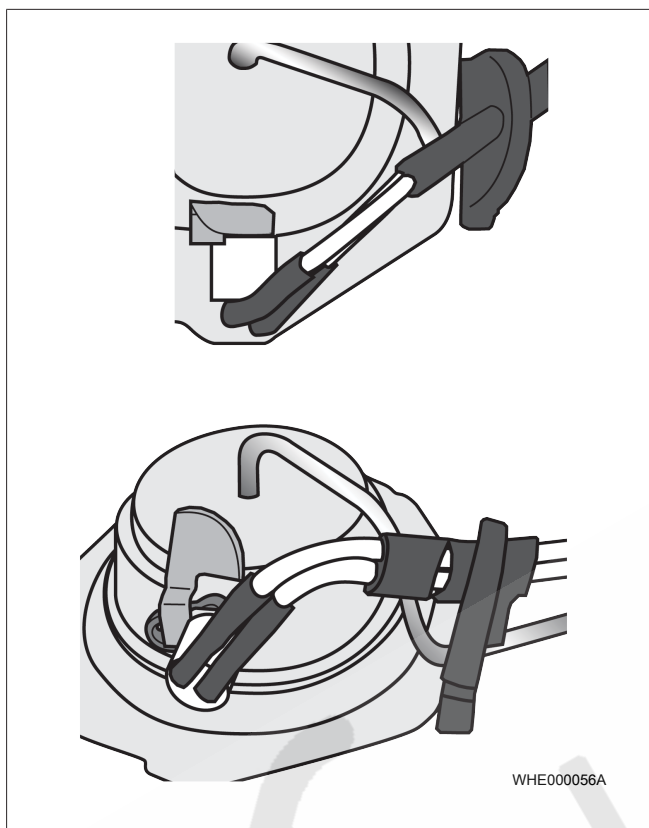

Fig. 20
- ▶ Route the glow plug cable with a slight bend and push the glow plug cable bush onto the fuel line (see Fig. 20).